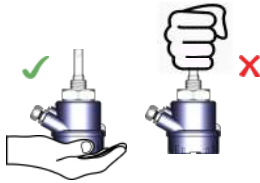

Figure 12: Instrument Handling
- When handling forks, do not lift them using their tines. Please see Figure 12.